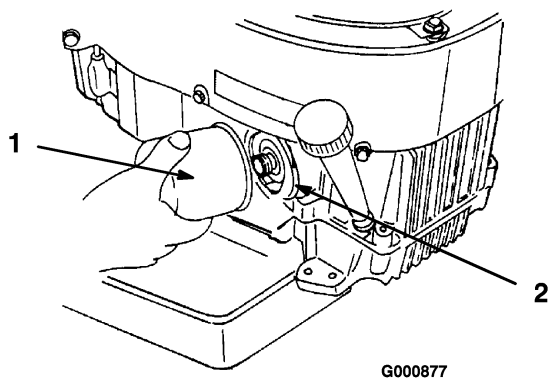

Figure 23
2. Remove the old filter (Figure 23).
4. Install the replacement oil filter to the adapter. Turn the oil filter clockwise until the rubber gasket contacts the filter adapter, then tighten the filter an additional 3/4 turn (Figure 23).